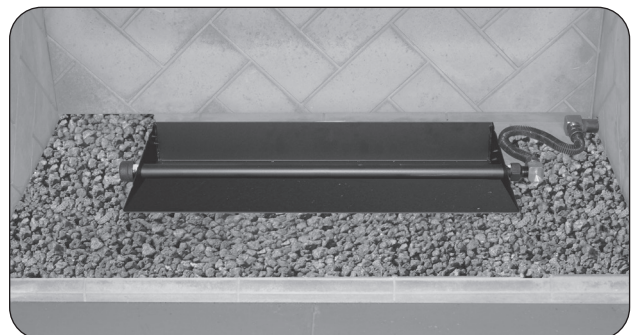

Fig. 11-4 Place lava media (if option purchased)
1. Spread the lava granules on the floor of the fireplace, around the front and sides of the burner system (see Fig. 11-4).